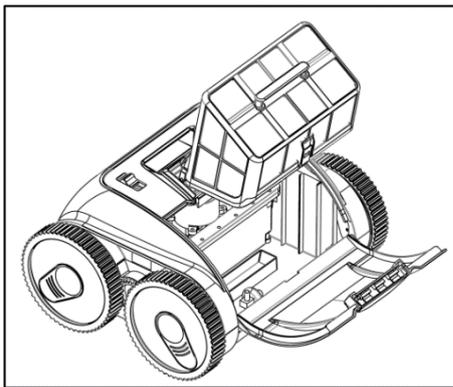

Figure 4-3
5.5.2 Remove the filter basket from the cleaner (Figure 4-3)